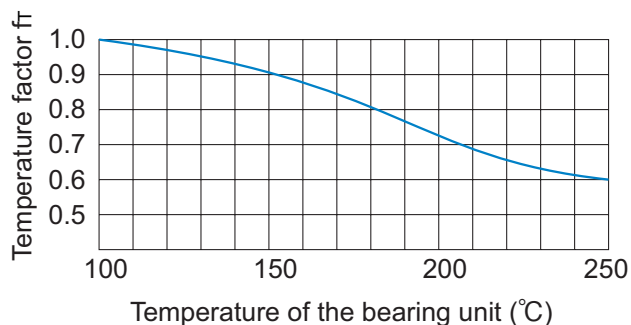

Fig.1 Temperature Factor (fT)
**C** : Basic dynamic load rating\* (N)
**Pc** : Dynamic equivalent radial load (N)
**fT** : Temperature factor (see Fig.1)